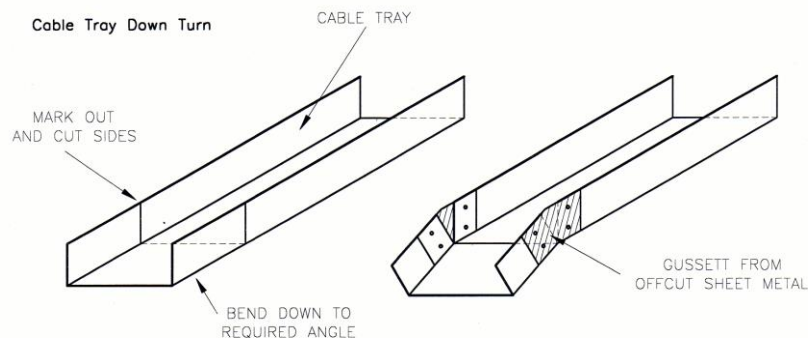

Figure 4 - A typical down turn in cable tray.
18. A typical down turn is where a horizontal cable tray is to change direction downwards. A typical down turn is shown in Figure 4. The dimensions of the gussets are not critical, but they need to be at least as deep as the cable tray, with an overlap of about 50 mm on each side of the cut in the tray. The angle of the down turn is critical so it should be carefully checked before you fix the gussets in place.